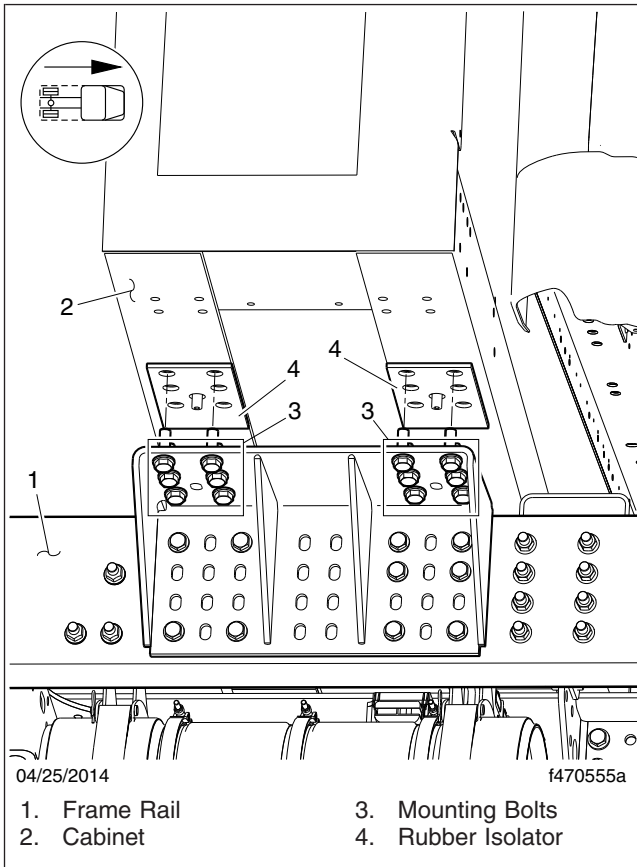

Fig. 4, Back-of-Cab Cabinet Installation
6. Remove the mounting bracket bolts. See Fig. 4.
3. While still supported with the lifting device, install the mounting bolts, with washers, from the bottom, and install the washers and nuts from inside the cabinet. See Fig. 4.